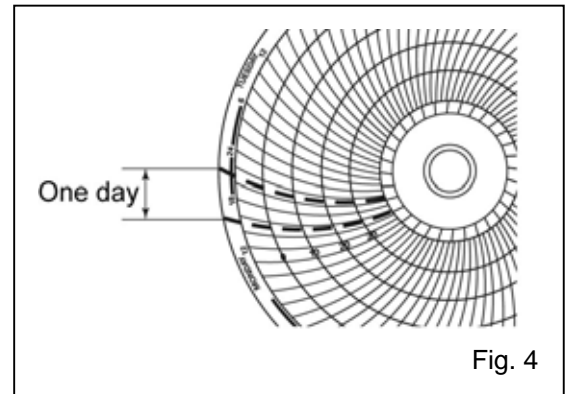

Fig. 4
5. Take out the battery. (Fig. 4)
The used paper left in the used recording paper compartment can cause a malfunction. Be sure to remove it. See Fig. 4.
The center of the recording paper is divided into 32 equal sections. The lines extending from these lines serve as the 32-day time scale. (Fig.4)